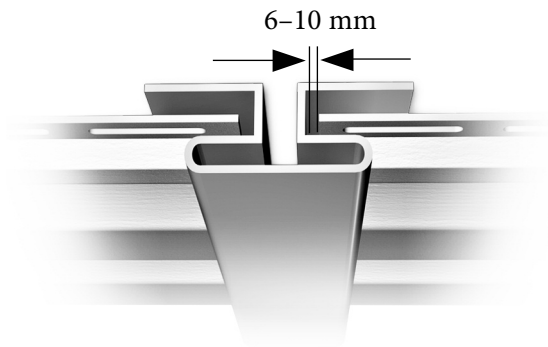

fig. 1
2. Leave a clearance (6 mm in summer, 10 mm in winter) for a possible extension when fastening the panels to chamfers and edges (Fig. 1).